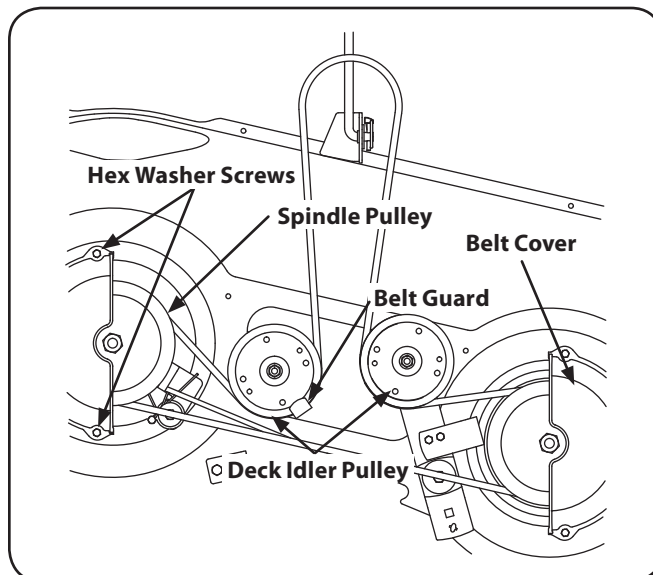

Figure 7-8
2. Remove the belt covers by removing the hex washer screws that fasten them to the deck. See Fig. 7-8.
4. Carefully remove the deck belt from around the two spindle pulleys and the two deck idler pulleys. See Fig. 7-8.
5. To place the new belt, begin by routing the belt around the two outer spindle pulleys as shown in Fig. 7-8.
6. Then route the belt around the two deck idler pulleys as shown in Fig. 7-8.